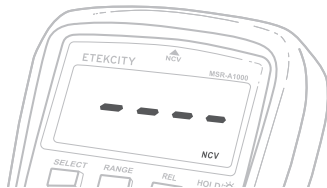

Figure 10.2
2. Place the front end of the multimeter near the object being measured. The intensity of the detected voltage will be displayed on the LCD in horizontal segments (up to 4 segments). [Figure 10.2] The multimeter will beep when voltage is detected. When a more intense voltage is detected, it will beep faster.